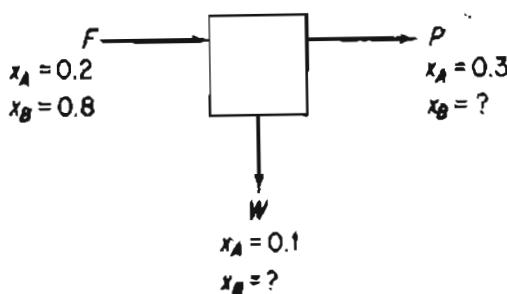

Figure P7.2
- *7.2 Examine the process in Figure P7.2. No chemical reaction takes place, and x stands for mole fraction. How many variables are unknown? How many are concentrations? Can this problem be solved uniquely for the unknowns?